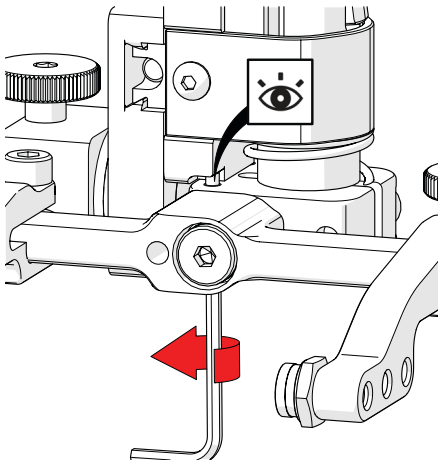

Fig. 74 - Raise opposite 90° stop post
8. Raise the stop post on the opposite side until the side of the post clearly contacts the 90° stop point on the probe holder's base (Fig. 74).